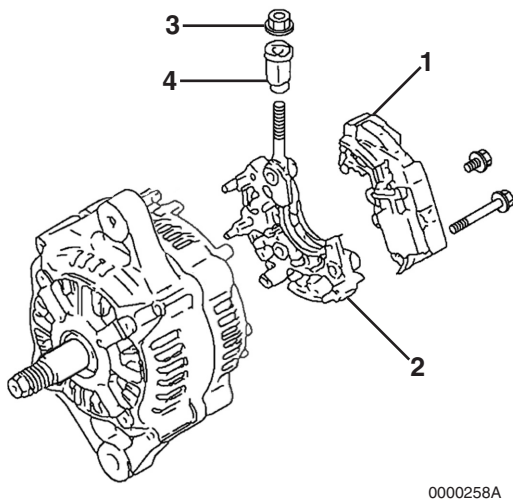

Figure 12-7
- Remove the bolt retaining the regulator assembly (**Figure 12-7, (1)**) to the holder (**Figure 12-7, (2)**).
- Remove the bolts retaining the holder (**Figure 12-7, (2)**) to the rear frame housing. Remove the holder.
- Remove the nut (**Figure 12-7, (3)**) retaining the insulation bushing (**Figure 12-7, (4)**). Remove the insulation bushing.